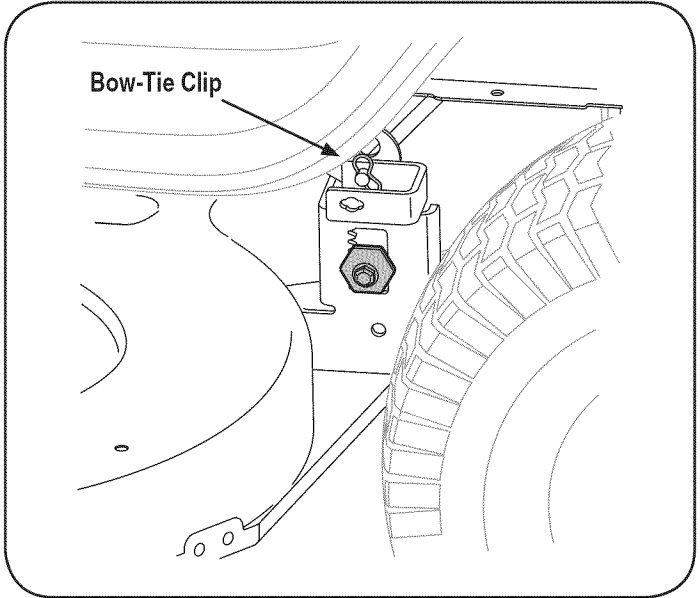

Figure 25
5. Looking at the cutting deck from the left side of the tractor, locate the bow-tie pin that secures the deck support rod on the rear left side of the deck. See Figure 25. Remove the bow-tie pin that secures the deck support rod, and carefully remove the deck support from the deck lift arm.